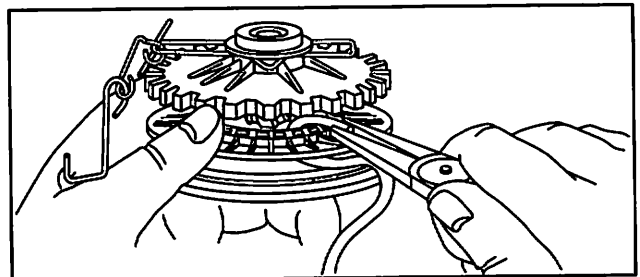

Fig. 54
10. Use a rope inserter tool and/or pliers to remove rope from pulley, Fig. 54, Typical. You can make a rope inserting tool as shown in Fig. 13, page 5.